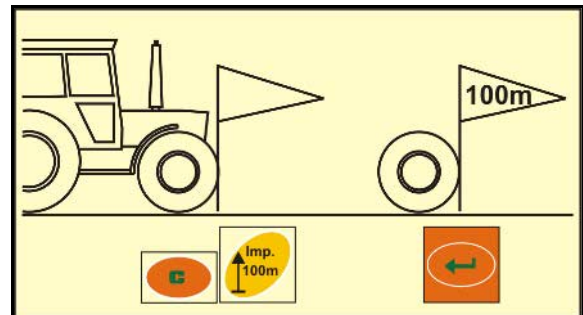

Fig. 76
2. Move tractor vehicle to starting position (Fig. 76) and seed drill to operational position (if necessary, interrupt seed dosing).